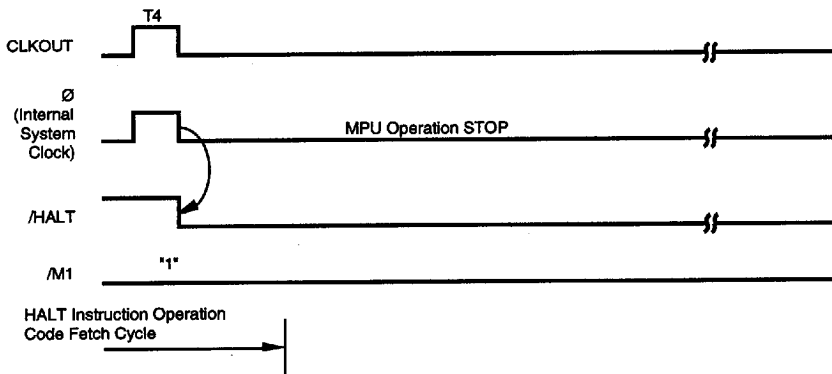

**Figure 30. Timing of RUN Mode**
**RUN Mode (HALTM = 11).** Shown in Figure 30 is the basic timing when the Halt Instruction is executed in RUN Mode.